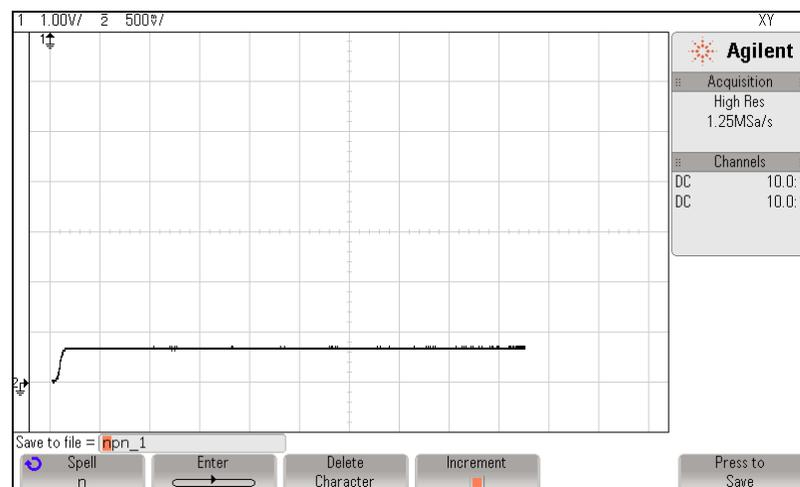

Figure 3. Curve for  $20\mu\text{A}$  Base Current.
7. Adjust the position controls for Channels 1 and 2 so that the ground icons on the screen for channels 1 and 2 ( $1_{\perp}$  and  $2_{\perp}$ ) align with the left vertical and bottom horizontal grid lines (see Figure 3). In XY mode, the position control for Channel 1 will move the waveform horizontally and the control for Channel 2 will move it vertically. The position controls are the knobs below the channels 1 and 2 buttons (see Figure 2).
8. Adjust the power supply voltage so that  $20\mu\text{A}$  flows into the base of the transistor. The display on the oscilloscope should be close to what is shown in Figure 3. A 2N3904 was used to produce all the figures in this section. A 2N3903 will produce similar in character curves.